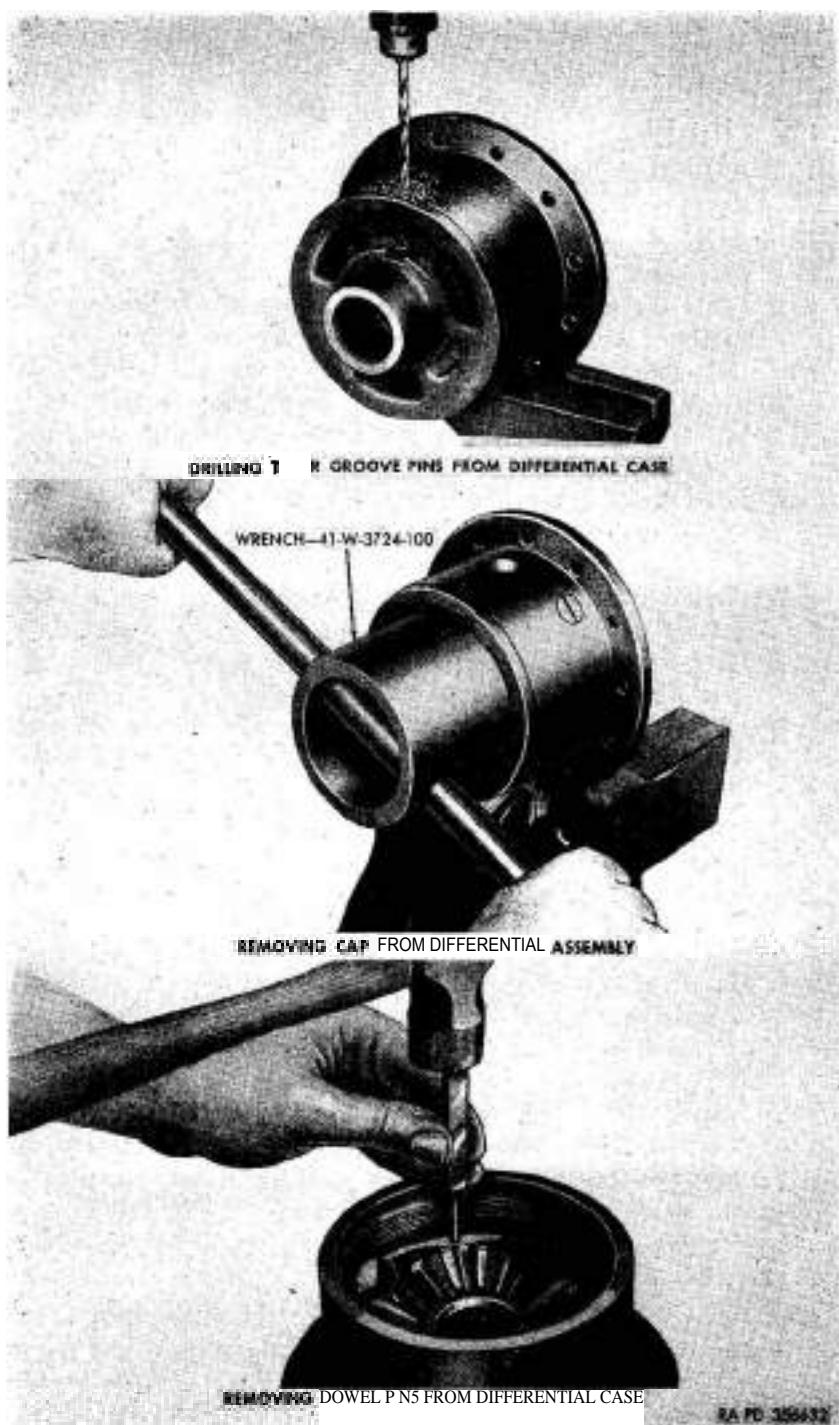
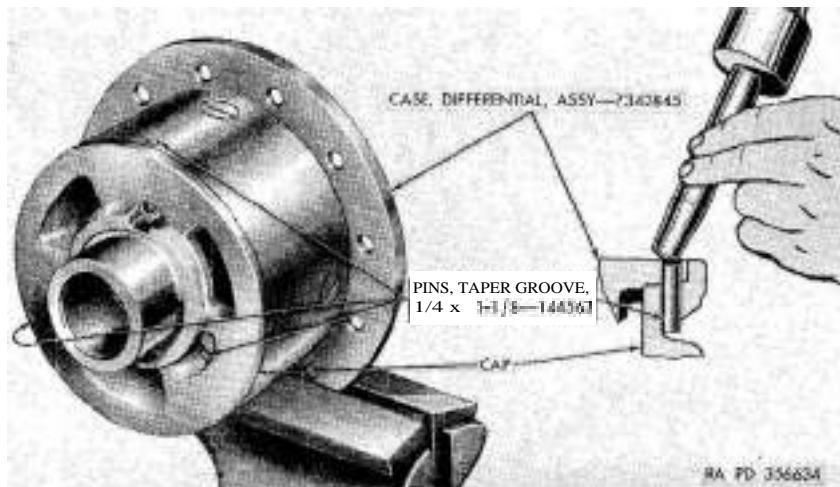

Figure 91. Disassembly of differential case.
Figure 92. Peening of pins in differential case.
- (1) Drive the pins below surface of differential case to facilitate center punching and drilling.
- (2) Accurately center punch each taper groove pin (fig. 91) and drill pins with a No. 1 (0.228-inch) drill. Remove shell of pins from case with a punch.
- (3) Heat differential case immediately below cap with an acetylene torch flame, moving the flame around the case until the metal becomes just hot enough to cause solder to flow as it is rubbed over the heated surface of the case. This expands the case, permitting removal of the cap without damage to the differential case or cap.
- (4) When case is properly heated, loosen cap with blunt drift and hammer and quickly remove cap with wrench 41—W-3724-100 (*fig. 91*). Immerse all parts in oil to cool for subsequent handling.
- (1) Remove differential case from vise and place it over the open jaws of vise, cap end up.
- (2) Remove differential gear (AA) and differential gear thrust washer (BB).
- (3) Drive dowel pins (SS) from differential case with a 3/16-inch drift punch and hammer (*fig. 91*).
- (4) Drive long differential pinion shaft (TT), at plain end, from differential case with a brass drift and hammer. Remove the two differential pinions (Z and GG) and differential pinion thrust washers (Y and FF) from case.
- (5) Drive one of the short differential pinion shafts (MM) into the case and through the differential pinion shaft block (HD) until differential pinion (GG) and differential pinion thrust washer (FF) can be removed. Continue to drive the short shaft through the block, forcing the opposite differential pinion short shaft (VV) from case. Remove the other differential pinion (Z), other differential pinion thrust washer (Y), block, and shaft. Remove other short shaft from case.
- (6) Remove differential gear (X) and differential gear thrust washer (W) from case.
- (5) Heat the threaded end of the differential case (**UU**) with an acetylene torch flame (par. 95e (3)).
- (6) Screw cap in differential case with wrench 41—W-3724-100 (*fig. 91*) and finish tightening cap with blunt drift and hammer.
- (7) Drill three holes, evenly spaced, through the differential case, near the cap flange and into the closed or heavy sections of the cap with a "C" (0.242-inch) drill (*fig. 91*). Drive in three new $1\frac{1}{4}$ x $11\frac{1}{8}$ taper groove pins (LL and WW) $1\frac{1}{16}$ inch below surface of case. Peen metal of case over $1\frac{1}{4}$ x $11\frac{1}{8}$ taper groove pins (*fig. 92*).